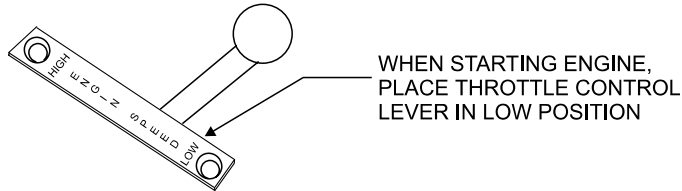

Figure 7. Engine Throttle Control Lever (Low)
- Place the **engine throttle lever** (Figure 7) in the **LOW** position.